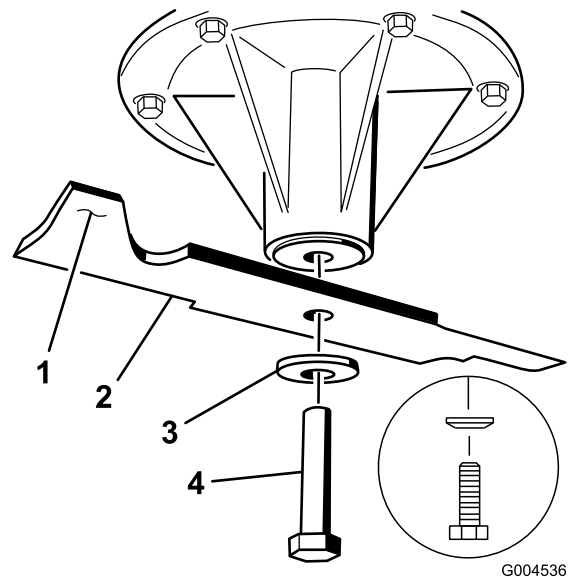

Figure 57
2. For 48 inch mower decks, remove the blade bolt, curved washer, and blade from the spindle shaft (Figure 57).
1. Install the blade onto the spindle shaft (Figure 57).
- Important:** The sail part of the blade must be pointing upward, toward the inside of the mower to ensure proper cutting (Figure 57).
2. For 48 inch mower decks, install the blade, curved washer, and blade bolt (Figure 57).
3. If the blade stays in a horizontal position, the blade is balanced and can be used. If the blade is not balanced, file some metal off the end of the sail area only (Figure 57)